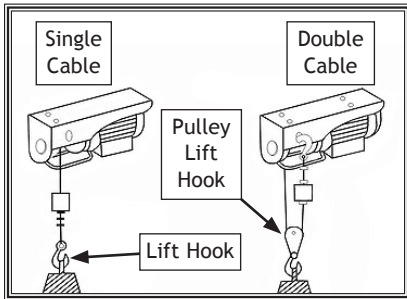

Figure 8. Cable setup options.
3. Verify the weight of the item to be hoisted. Review the **Specifications** on **Page 3** to see if the operation can be completed with a single or doubled-back cable, as shown in **Figure 8**.